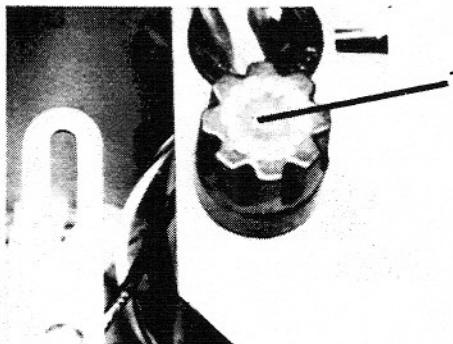

Figure 10
3. Locate the Fuse Holder Cap (Figure 10, Number 1).